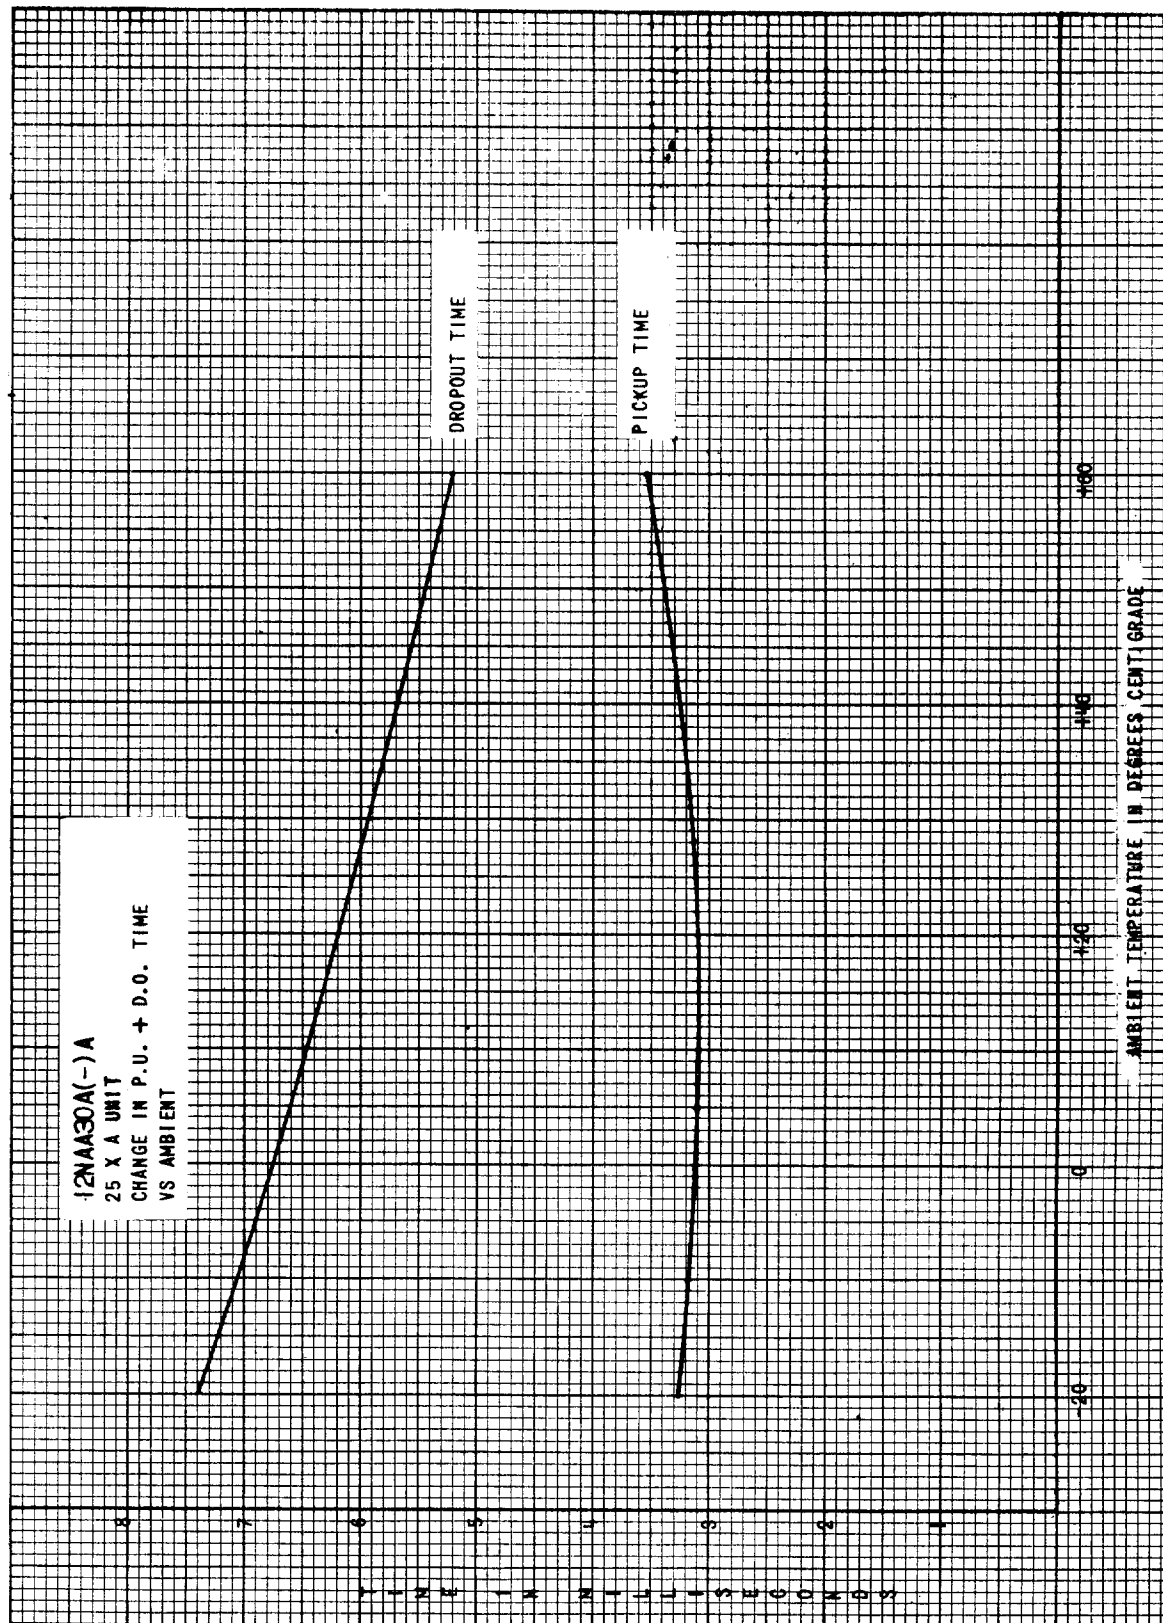

Figure 6 (0246A3807) 25XA Characteristic Curve
1. Figure 6 is a curve for the 25XA unit illustrating the change in pickup and dropout time over an ambient temperature of -20°C to $+60^{\circ}\text{C}$.